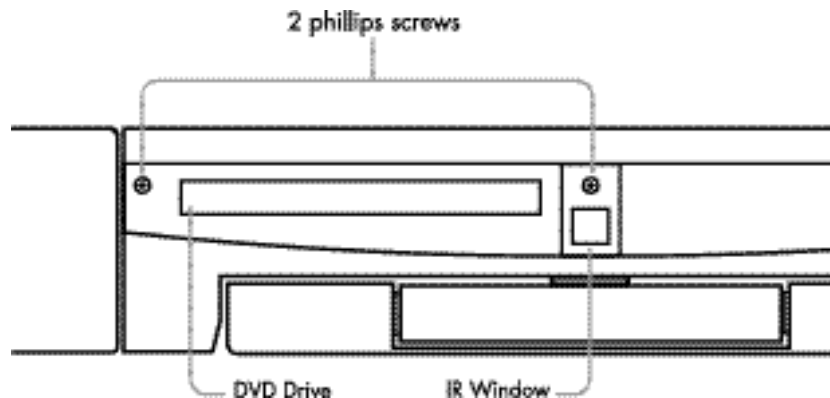

FIGURE 6. Removal of front panel
7. Remove 1 phillips screw that was previously hidden by the IR window, now visible above the sensor (see Figure 6).